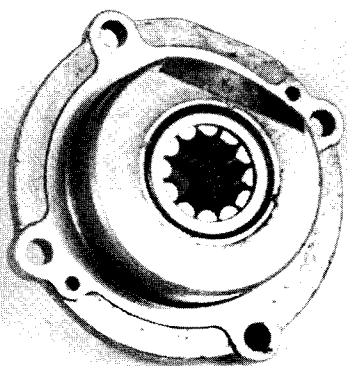

Fig. 19 — Bearings Properly Located in Retainer
1. Inspect bearings, if replacement is necessary press against lettered side of bearing. Install all bearings flush with edge of casting, Figs. 19 and 20.